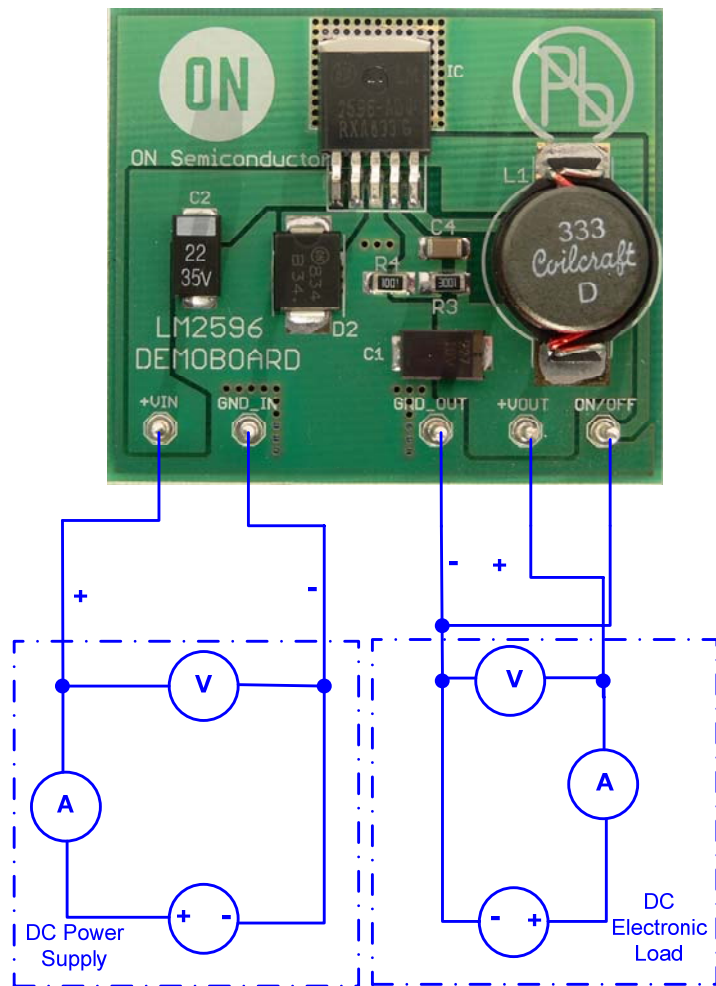

Figure 1. Test Setup
1. Connect the test setup as shown in Figure 1.